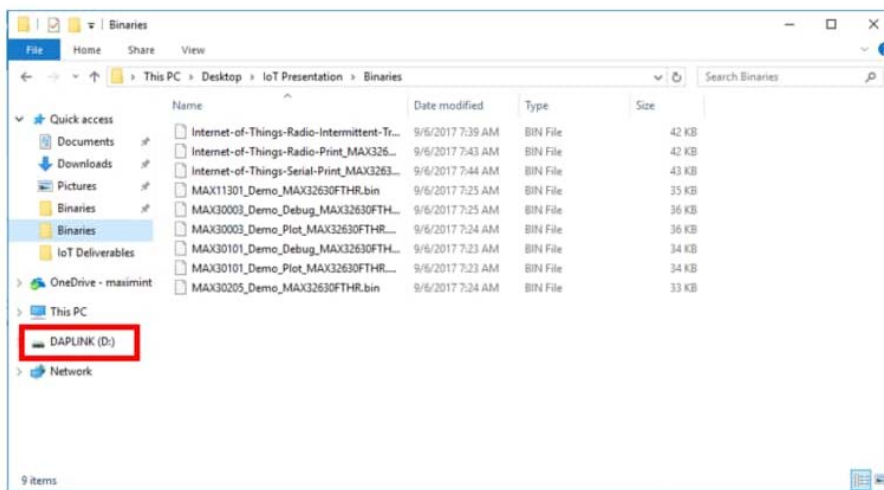
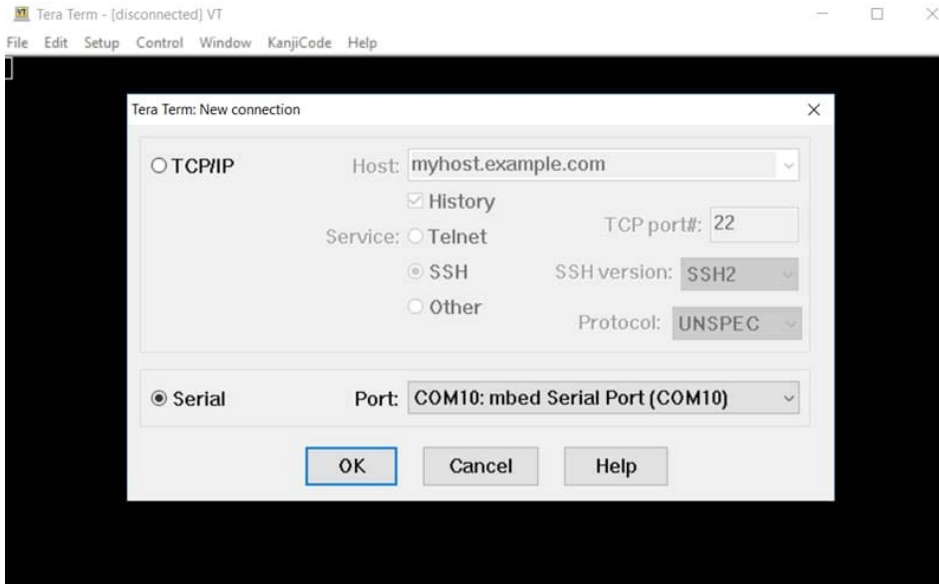

Figure 9. Drag the binary file onto the DAPLINK drive to program the microcontroller.
Figure 10. Tera Term opening window. Select the Serial radio button and the mbed Serial Port from the drop-down menu.
- The MAX32625PICO board appears as a USB drive with the name **DAPLINK** in your native file navigation program. Figure 9 highlights the DAPLINK drive with a red box. Program the MAX32630FTHR by dragging the binary file onto the DAPLINK drive. Red LEDs flash on the MAX32625PICO until programming is complete. This typically takes a few seconds.
- Open Tera Term and select the **Serial** radio button and the Mbed device from the pull-down menu, as shown in Figure 9. The Mbed device could be on a different COM port than what is shown in Figure 10. Click **OK**.